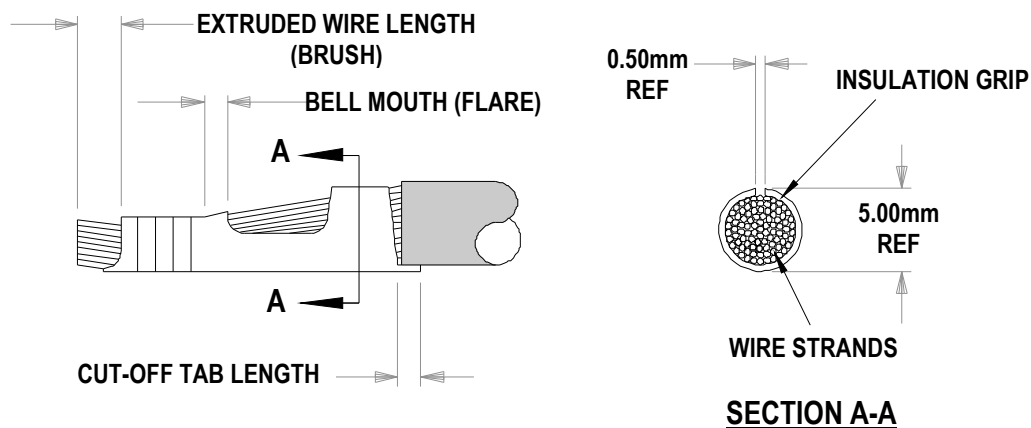

Figure 1
1. Cut-off Tab length below 0.30mm may cause the box dimension to be under recommendation. See Figure 1.
3. Changing the insulation height setting may be needed to achieve the dimensions of the insulation grip in Section A-A. See Figure 1.